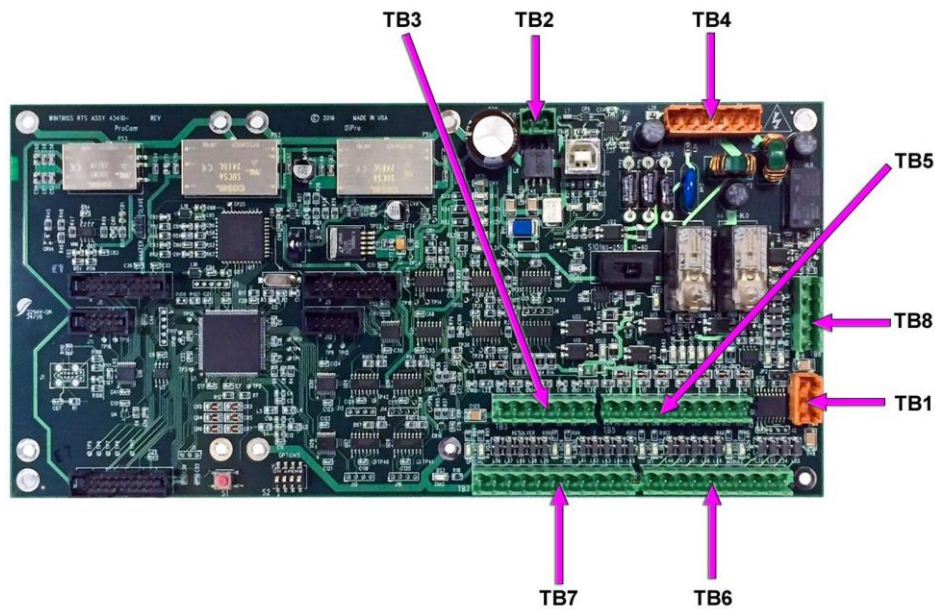
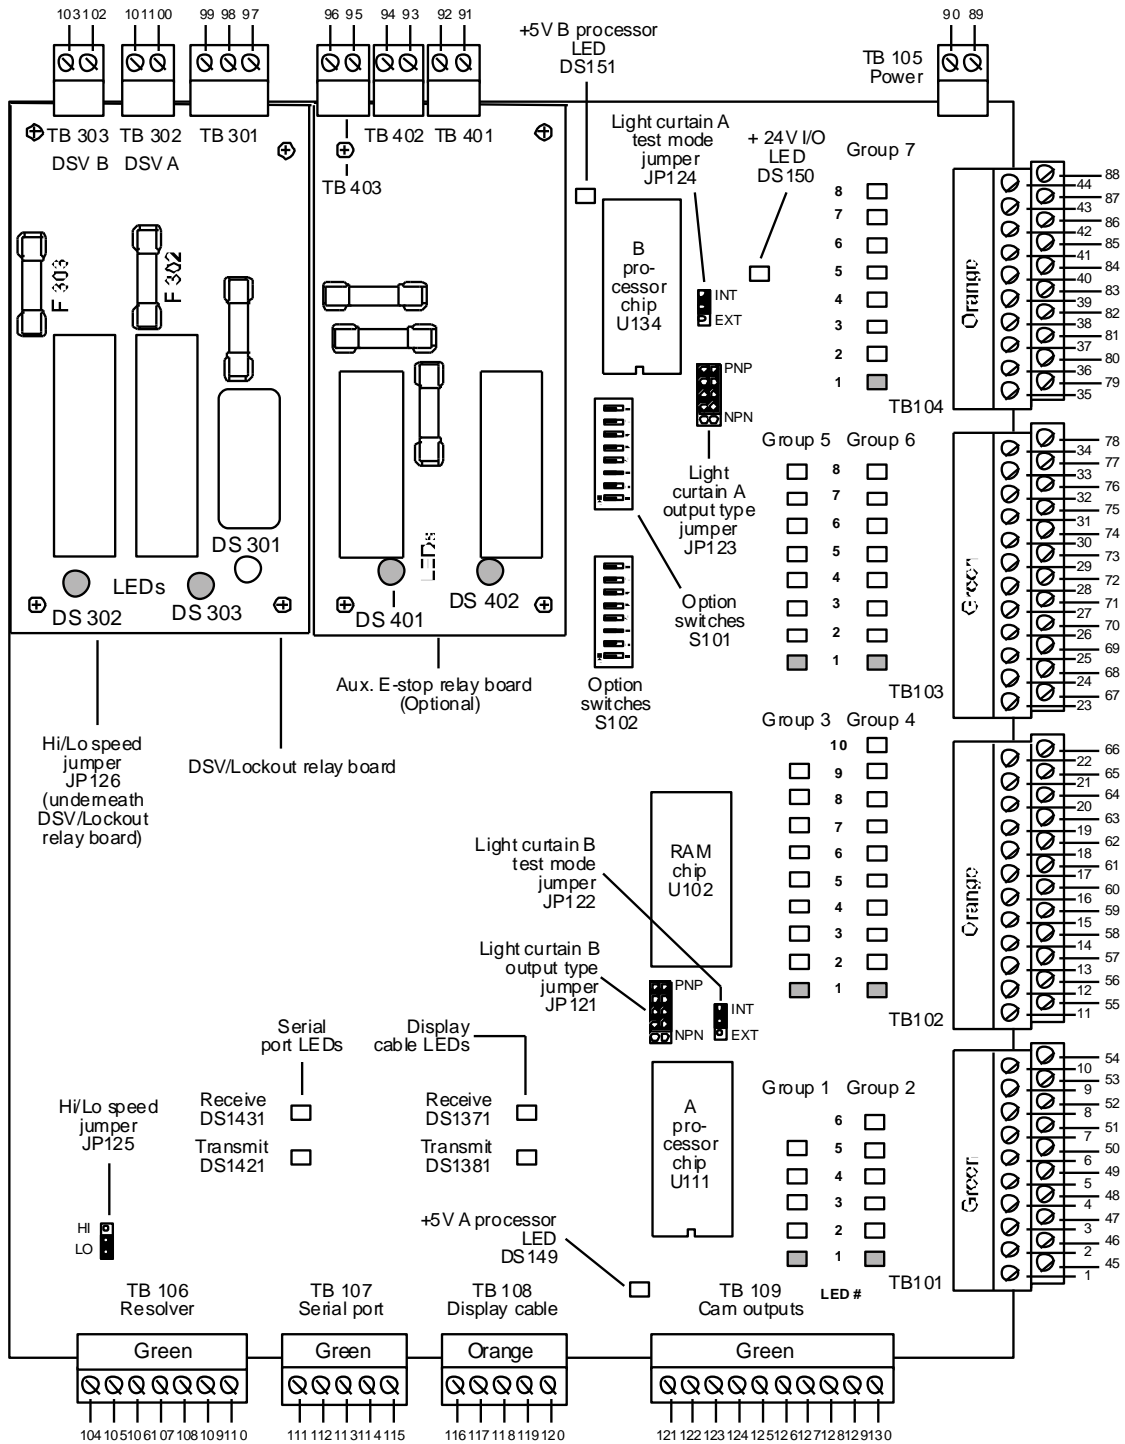

Figure 2-4. SmartPAC PRO Board with Terminal Block Locations
Figure 2-5. WPC 2000 Main Processor Board: Location of Important Components
As shown in *Figure 1-1* page 18, run the low voltage connections through one conduit, (including resolver and communications wiring, and 24 VDC); and high-voltage connections through a separate conduit (such as AC, stop circuit, and input check circuit wiring). Refer to Figure 2-4, Figure 2-5 on page 32, and wiring diagrams Figure 1 or Figure 2 at the end of this manual when making wiring connections.
To wire the resolver from WPC 2000 to SmartPAC PRO, perform the following steps, referring to Table 2-4 on page 34, Figure 2-4 on page 31, the WPC 2000 Main Processor Board figures in your WPC manuals, and wiring diagrams Figure 1 or Figure 2 at the end of this manual.
4. Remove the resolver connector, TB3, from the SmartPAC PRO board (see Figure 2-4, page 31) and connect wiring from the 6-conductor cable to terminals 212 through 218, as shown in Table 2-4. Plug the connector back into TB1 when you are done.
2. Remove the TB8 connector from the SmartPAC PRO board (see Figure 2-4 page 31 for location), and connect wiring from the 6-conductor cable as shown in Table 2-5. Plug the connector back into TB8 when you are done.
2. Locate connector TB4 on the SmartPAC PRO board (see Figure 2-4 page 31) and unplug it from its socket. Connect the wires for stop and input check circuits to TB4 pin locations, as shown in Table 2-6, below, and wiring diagrams Figure 1 or Figure 2 at the end of the manual. Plug the connector back into TB4 when you are done.